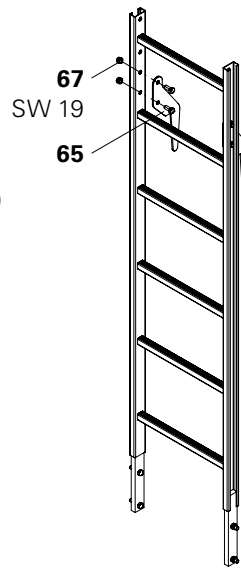

Fig. B1.39
If the bottom ladder is of a hook-on type, fix Ladder Hook (65) using Bolts ISO 4017 M12 x 25-8.8 (67), SW 19. (Fig. B1.39)